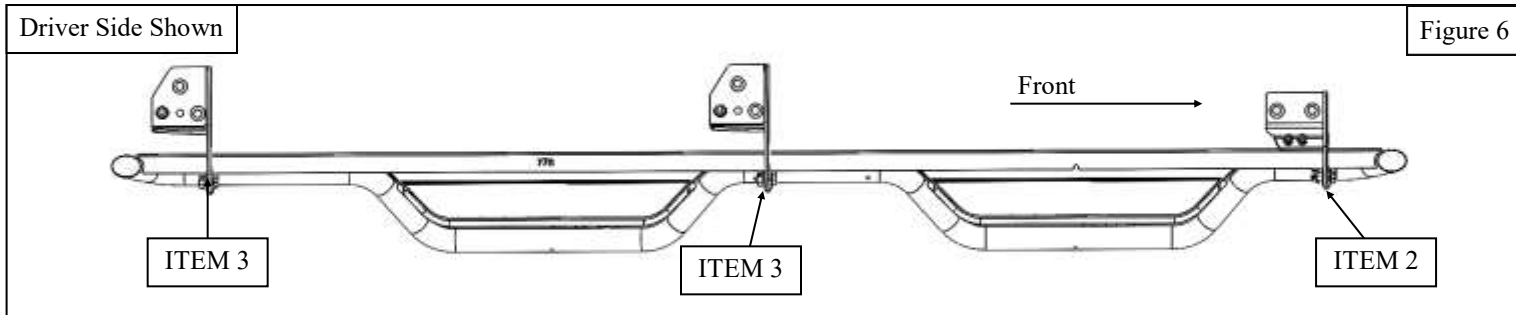

Figure 6
5. Loosely mount driver side Center and Rear Mounting Bracket (Item 3) to the rocker panel in the center and rear mounting locations using (2) M8 Hex Bolts, (2) M8 Lock Washers, (2) M8 Flat Washers, (1) M10 Flat Washer, (1) M10 Lock Washer, and (1) M10 Hex Nut (Items 7-12). Leave everything loosely in place at this time. See **Figure 5** for reference. **Note:** The Riv-Cert (Item 6), will only be used when threaded holes are not present. Also, see **Figures 6 & 7** for the proper bracket orientation for both the driver and passenger side.
6. Repeat **Step 5** for the Passenger Side Mounting brackets. See **Figures 6 & 7** for the proper bracket orientation for both the driver and passenger side.